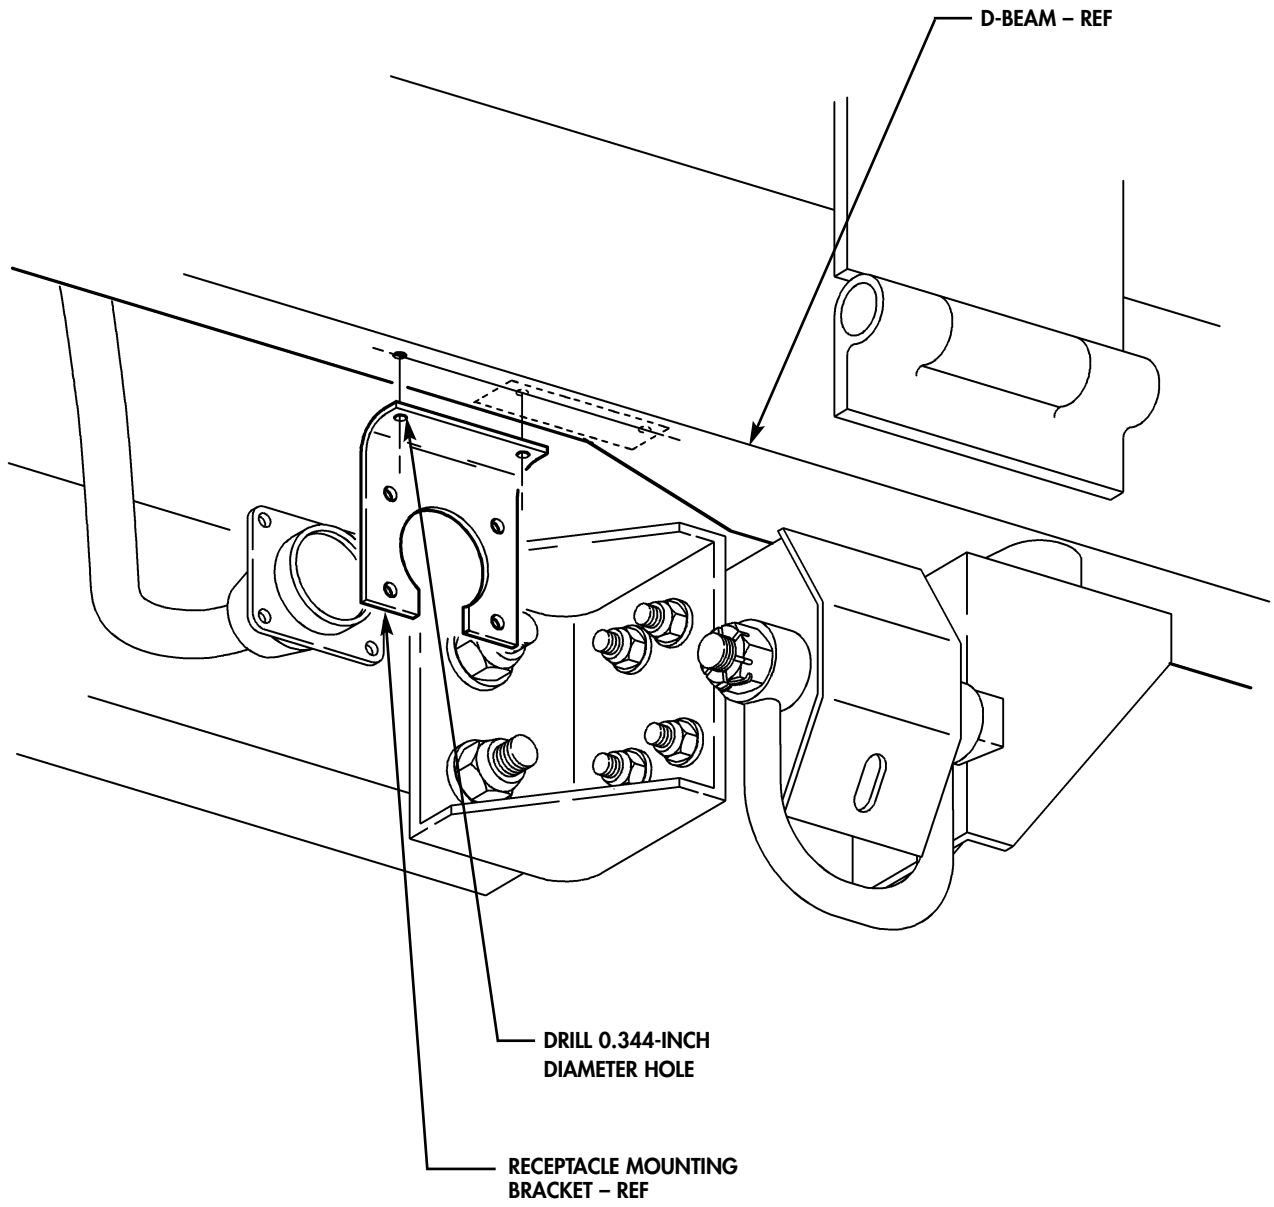

FIGURE 3
- (8) Align right side hole in existing receptacle mounting bracket with left side hole on D-beam and using receptacle mounting bracket as a template, locate, mark, and drill 0.344-inch diameter hole in receptacle mounting bracket and D-beam as shown in figure 3. Remove receptacle mounting bracket.